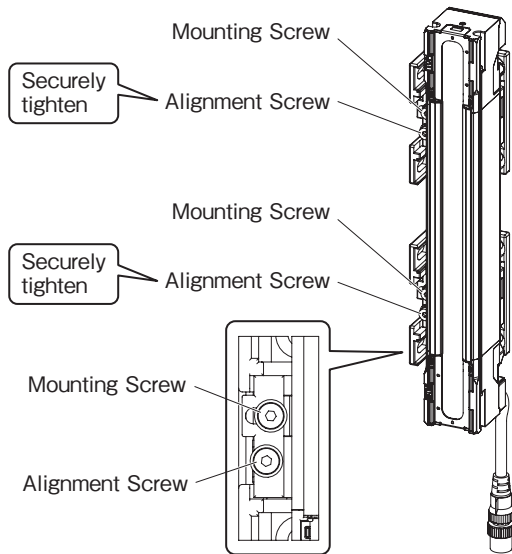

Fig. 6
- Securely tighten the Alignment Screws to fix the Adjustable Side-Mount Bracket to the sensor housing. The recommended torque to tighten the Alignment Screws is 3.0 N•m. (Fig. 6)